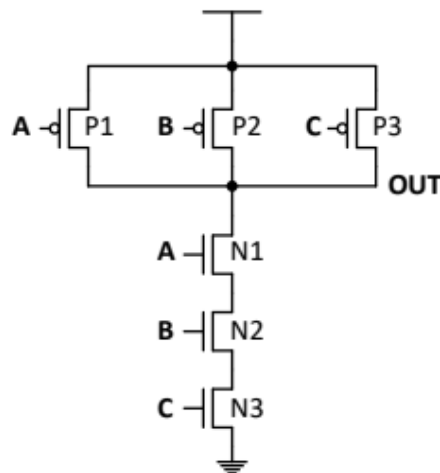

Fig. 1
1. Please design a NAND3 shown in Fig. 1 with minimum length (0.18 μ m) of NMOS and PMOS. Under the condition TT25°C, the logic circuit has the same output rise delay (t_{pLH}) and fall delay (t_{pHL}) as the inverter in HW1 Part-I with the following two input patterns. (4%)